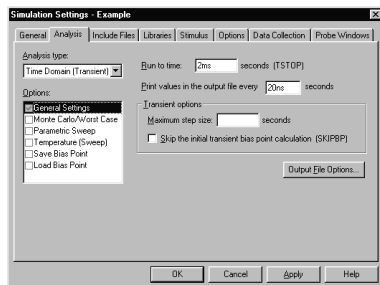

Figure 16 Transient analysis simulation settings.
- 5 From the Analysis list, select Time Domain (Transient) and enter the settings shown in Figure 16.